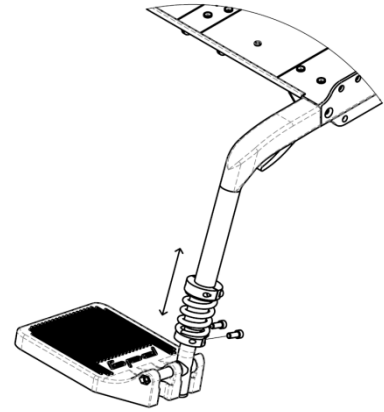

Figure 10.4: *Adjusting mount height*
1. Loosen the two lower clamping bolts with a 3/16" Hex Drive as shown in Figure 10.4.